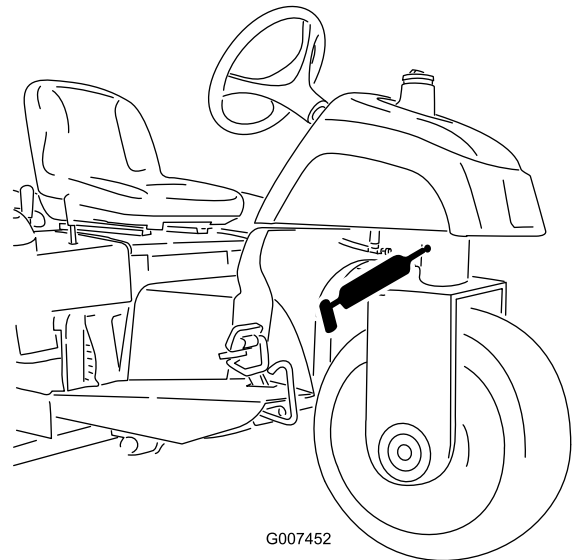

Figure 26
- Steering pivot (Figure 26)
Note: The flush fitting on the steering pivot (Figure 26) requires a grease gun nozzle adapter. Order Toro Part No. 107–1998 from your Authorized Toro Distributor.